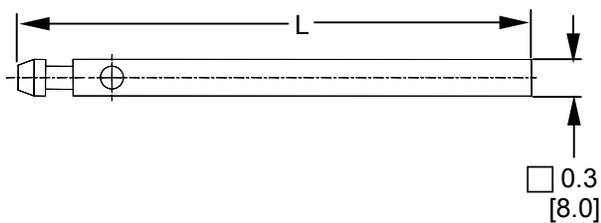

Figure 5. Cutting the extension shaft to the proper length.
- b. Cut the extension shaft [9] to the length “L” given by $L = H - 120.5 \text{ mm (4.74 inch)}$, as illustrated in Figure 5.